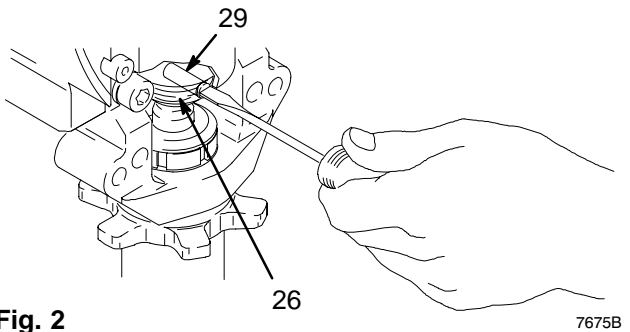

Fig. 2
- For Hi-Boy models;** remove spring clip (32) and drain hose (54). Unscrew suction tube (30) from pump, hold wrench on pump intake valve (A) to keep pump from loosening. **For Lo-Boy models;** unscrew swivel union (30aa) from pump.
- Disconnect pump outlet hose (33) from displacement pump outlet nipple (62).
- Fig. 2. Use screwdriver to push up retaining spring (26) at top of pump. Push out pin (29).